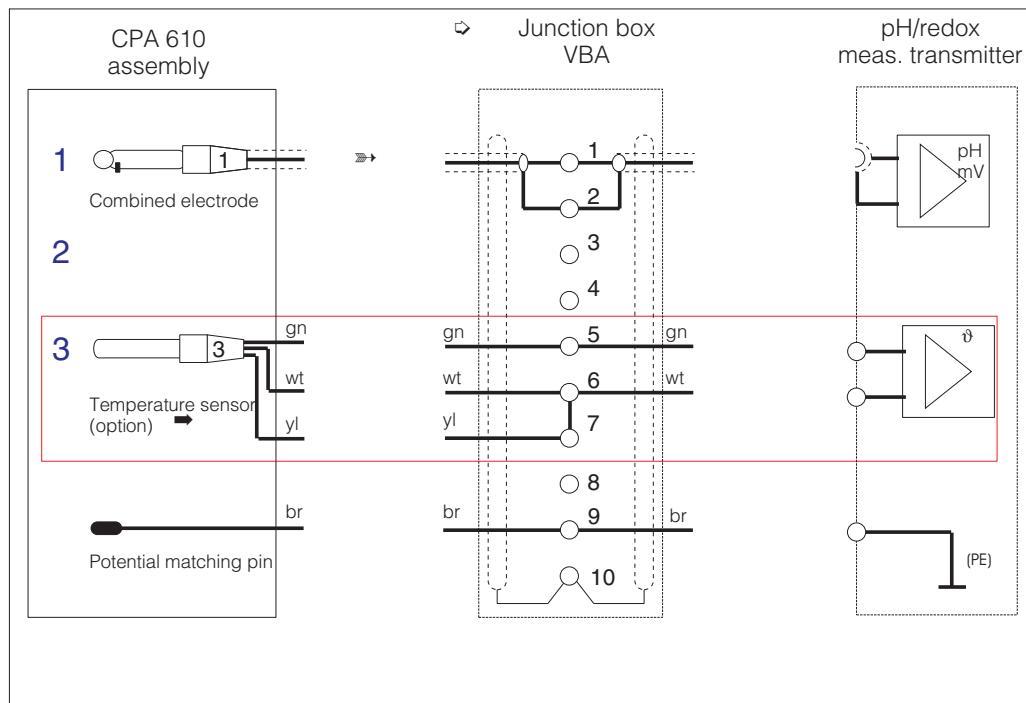

Fig. 9: Combined pH/redox electrode
2. Use pre-assembled cable CPK 1, 2 or 7 for connection. (See fig. 9 for terminal assignments.)